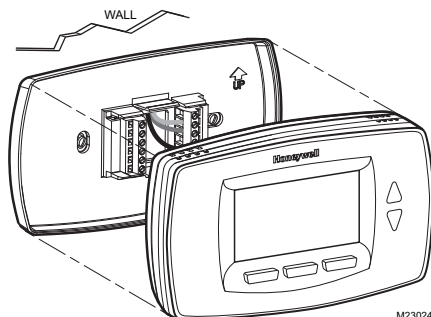

Fig. 23. Mount thermostat to wallplate.
2. Push the thermostat straight onto the wallplate until it snaps into place. See Fig. 23.